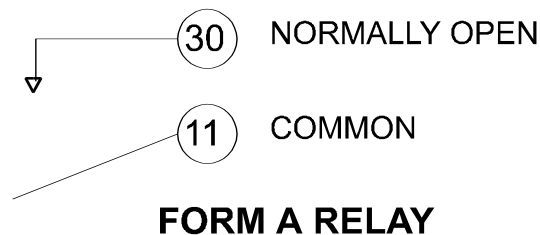

Figure 3-2. Form A Relay (5) contacts
The Form A relay has a common and a normally open (NO) contact. Figure 3-2 shows the schematic for a Form A relay, like those connected at relay 5 through relay 7.